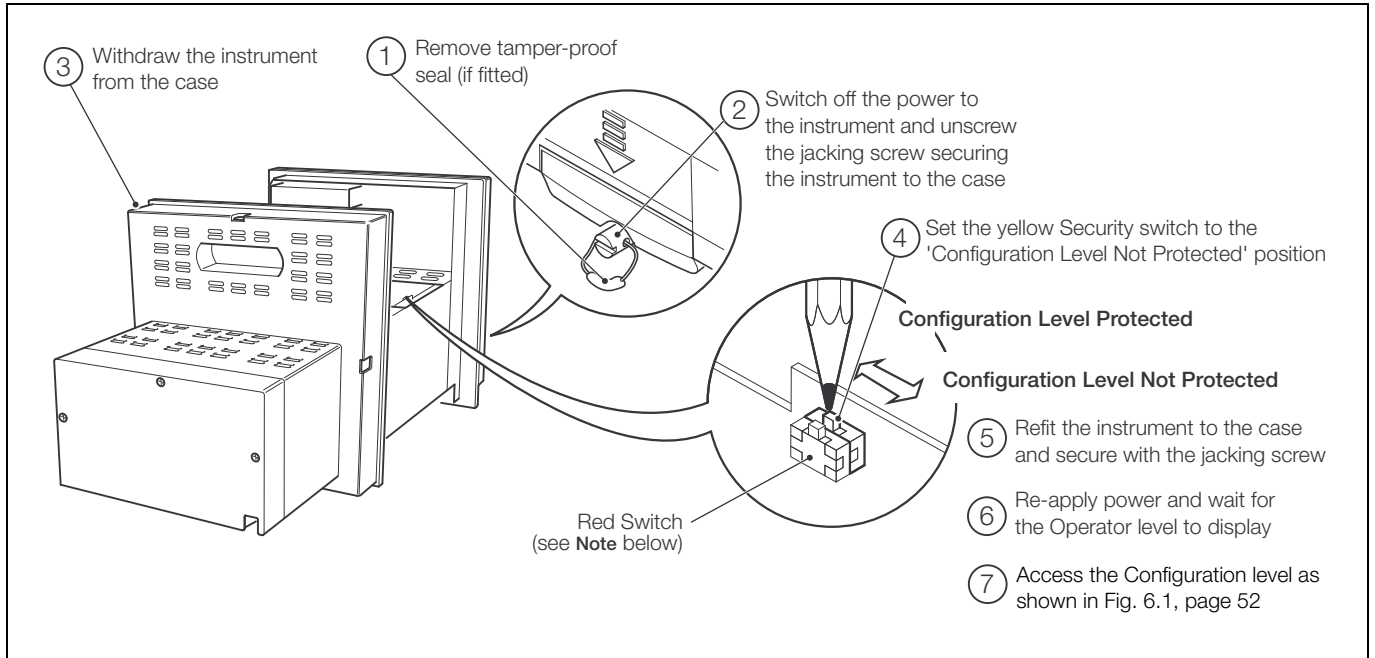

Fig. 6.2 Setting the Security Switch
The Configuration level cannot be accessed until the instrument is withdrawn from its case and the internal switch set to the 'Configuration Level Not Protected' position – see Fig. 6.2, page 53.
- Set the internal security switch to the 'Configuration Level Not Protected' position – see Fig. 6.2, page 53.